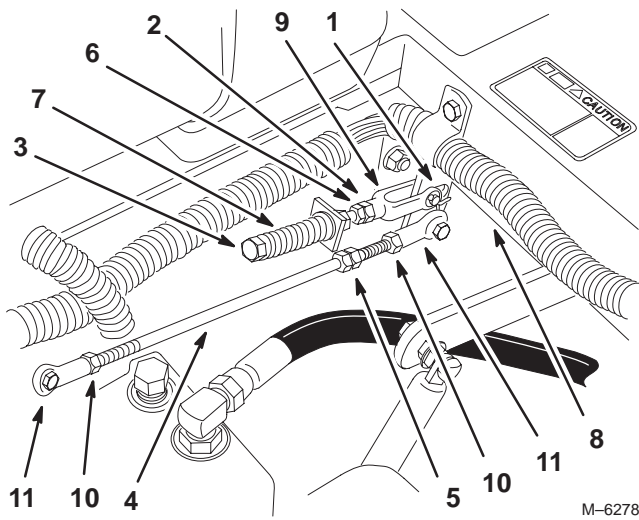

Figure 59
5. Move the lever to the neutral position but **not locked** (Fig. 59).
6. Pull lever back until the clevis pin (on arm below pivot shaft) contacts the end of the slot (just beginning to put pressure on the spring) (Fig. 59).
8. If adjustment is needed, loosen the nut and jam nut against the yoke (Fig. 59).
10. Tighten the nut and jam nut (Fig. 59).
1. Loosen the locknuts at the ball joints on pump control rod (Fig. 59).
3. Adjust the pump rod length by rotating double nuts on rod, in the appropriate direction, until wheel is still or slightly creeps in reverse (Fig. 59).
6. Tighten the locknuts at the ball joints (Fig. 59).